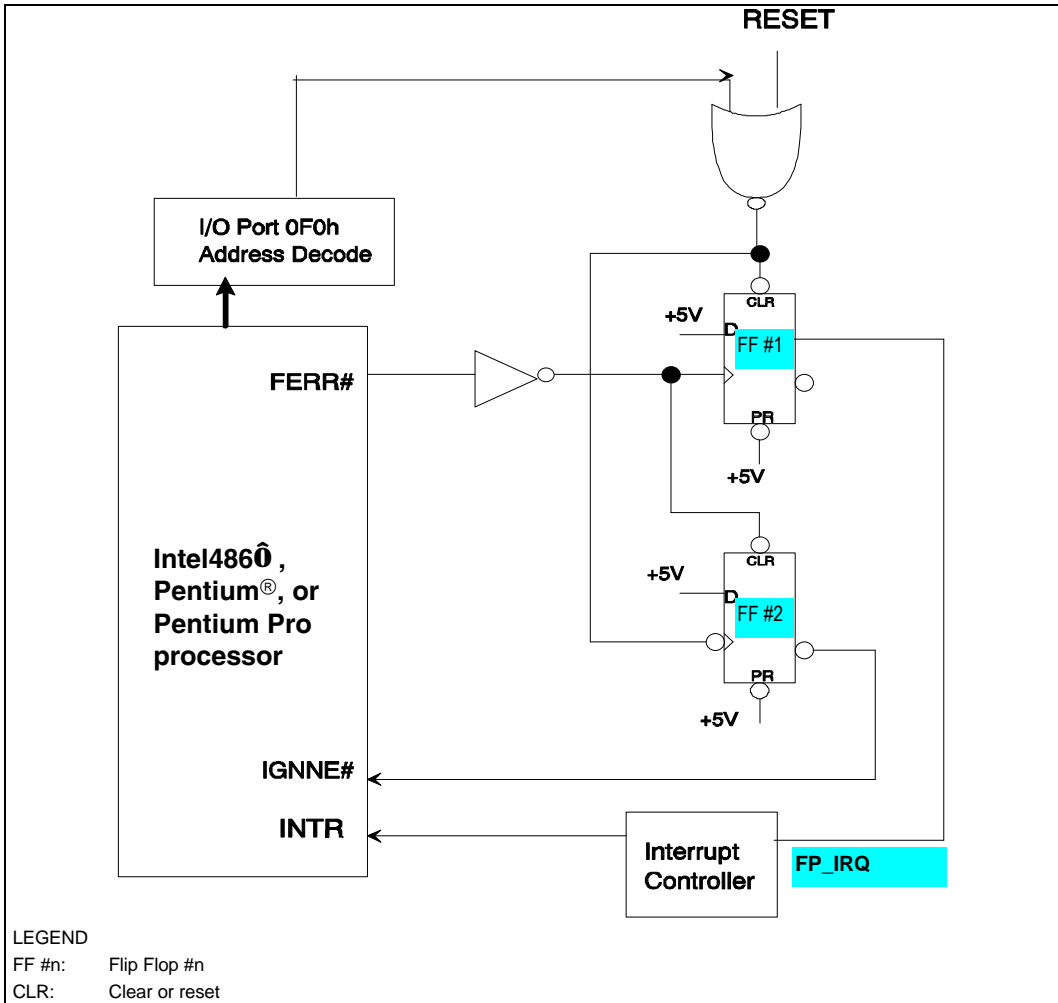
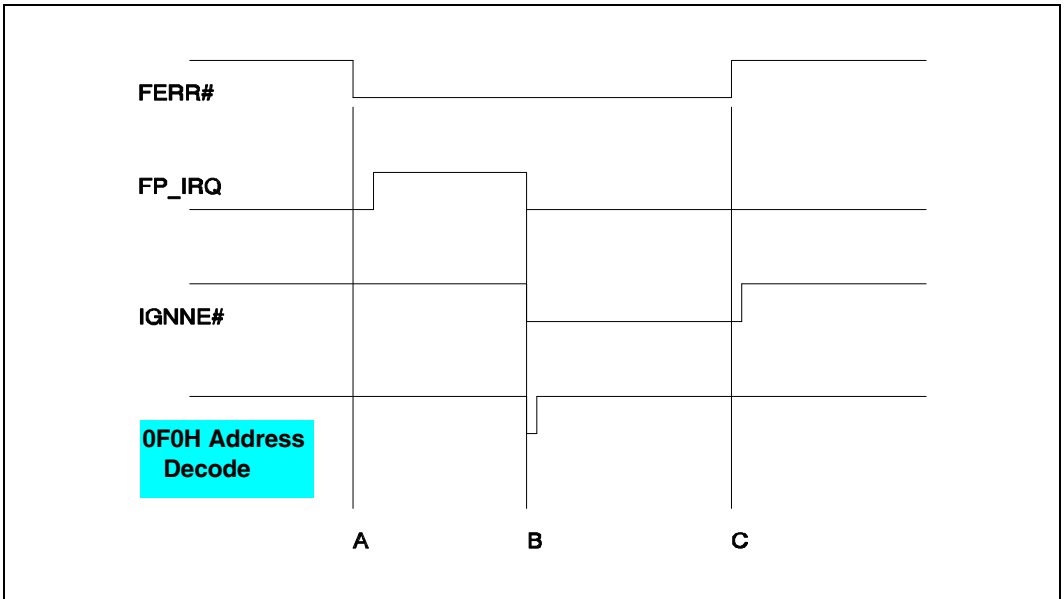

Figure 1. Recommended Circuit for MS-DOS* Compatible FPU Exception Handling
Figure 2. Behavior of Signals During FPU Exception Handling
Figure 1 below provides an external circuit which will assure proper handling of FERR# and IGNNE# when an FPU exception occurs. In particular, it assures that IGNNE# will be active only inside the FPU exception handler without depending on the order of actions by the exception handler. Some hardware implementations have been less robust because they have depended on the exception handler to clear the FPU exception interrupt request to the PIC (FP_IRQ signal) *before* the handler causes FERR# to be de-asserted by clearing the exception from the FPU itself. Figure 2 below shows the details of how IGNNE# will behave when the circuit in Figure 1 is implemented. The temporal regions within the FPU exception handler activity are described as follows:
4. In the circuit in Figure 1 when the FPU exception handler accesses I/O port 0F0H it clears the IRQ13 interrupt request output from Flip Flop #1 and also clocks out the IGNNE# signal (active) from Flip Flop #2. So the handler can activate IGNNE#, if needed, by doing this 0F0H access before clearing